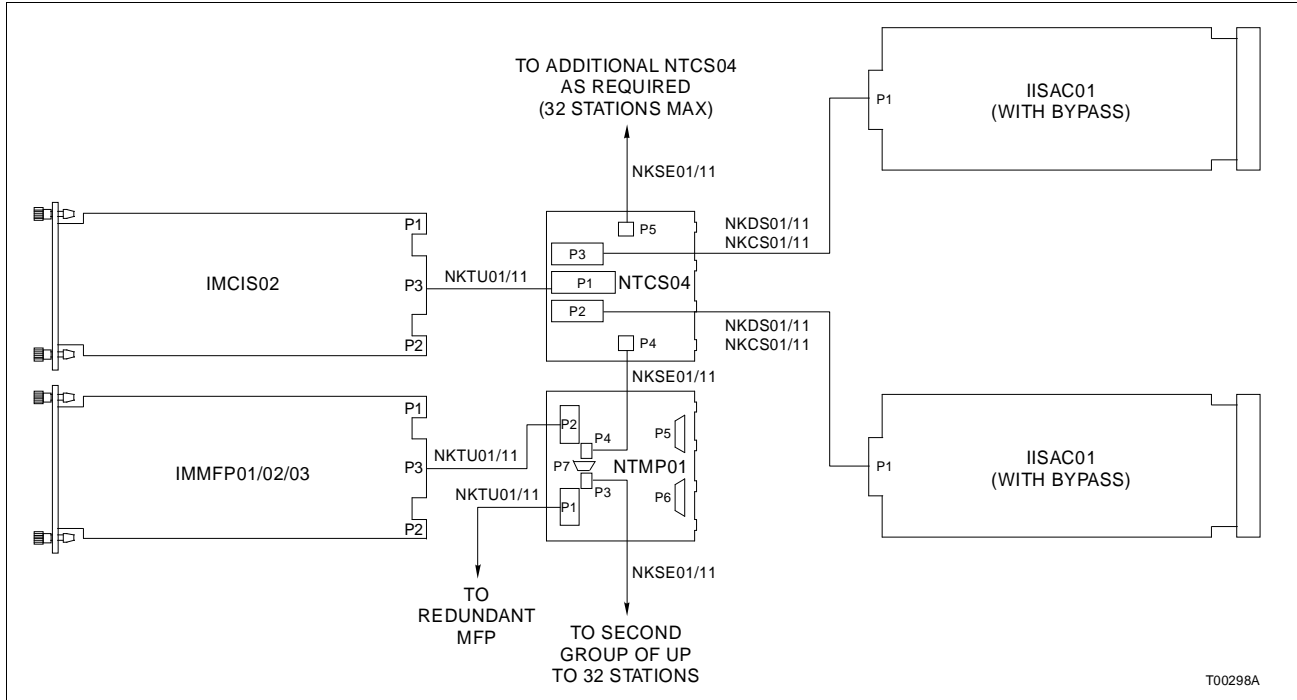

Figure 3-3. Cable Connections for Two Analog Control Stations on One TCS Termination Unit
2. Connect one end of the NKCS01 or NKDS01 (only 1 analog input with NKDS01) cable to P2 or P3 on the termination unit. To install a double station, install a cable in P2 and P3. Figure 3-3 shows a diagram of a double station installation.